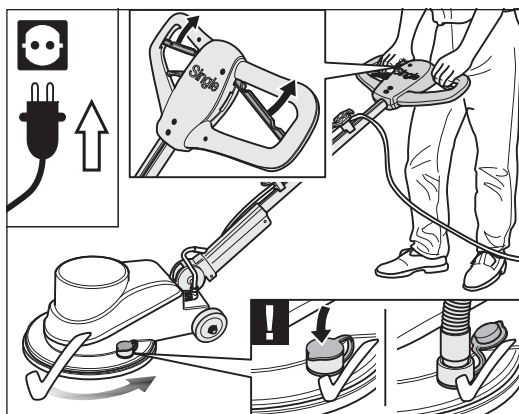

Fig. 12 Do not start the machine in this position unless
- The dust extraction socket is closed either with its cap or a vacuum cleaner hose (Fig. 12, please see also *Section 4.5, Attaching an external vacuum cleaner*).
Pull both the start levers AT THE SAME TIME and hold the handle tight with both hands (Fig. 12). The machine will start up.